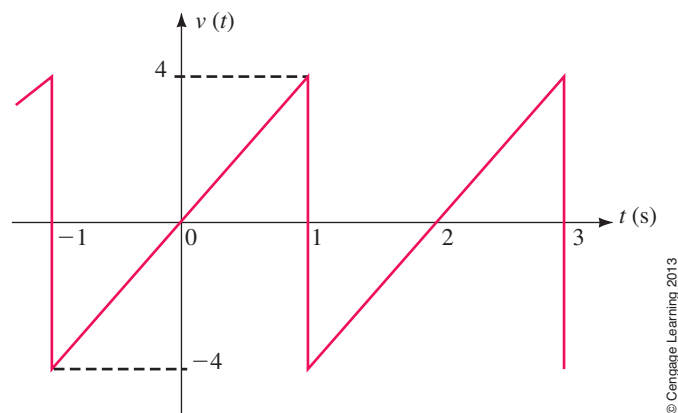

FIGURE 25-51
6. Repeat Problem 5 for the waveform shown in Figure 25-51.